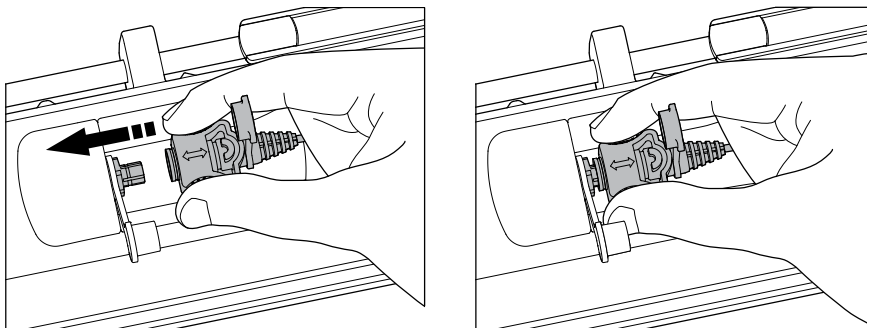

Figure 7: Connecting the Earset
- g.** Undo the dust caps from the Earset Plug and Earset Socket on the detector. Gently hold the Earset by the rubber collar using thumb and index finger, the raised double arrow should be uppermost (see Figure 7). Align the plug with the Earset Socket and firmly slide the collar onto the socket.